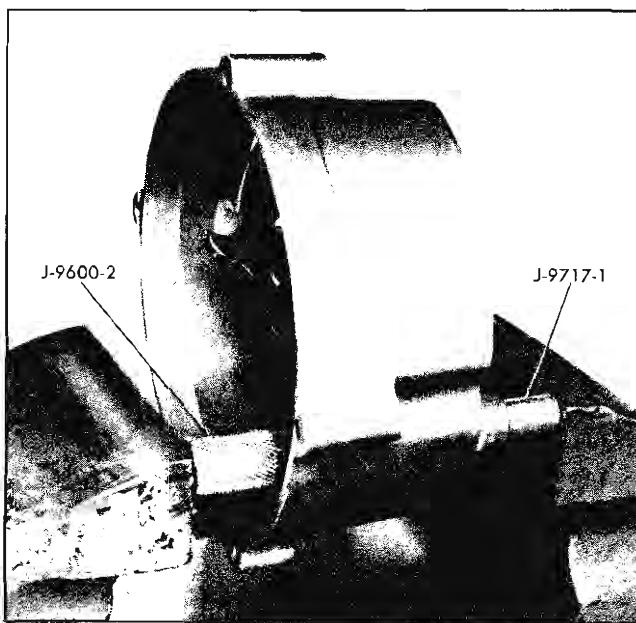

Fig. 11-20 Installing Diode
4. Place slip ring end frame in a vise so that new diode is in position and remover J-9717-1 supports casting (Fig. 11-20).